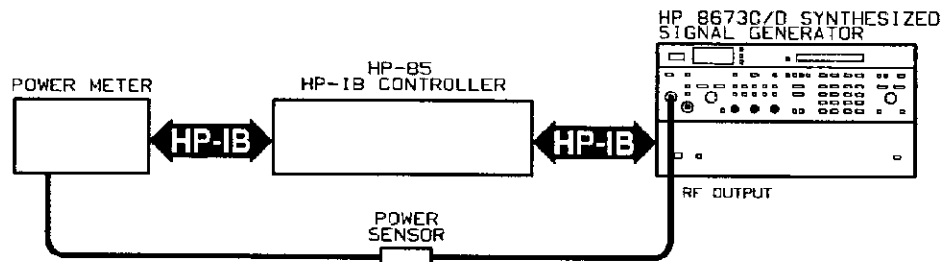

Figure 5-31. Low Band Clamp Adjustment Test Setup
1. Connect equipment as shown in figure 5-31